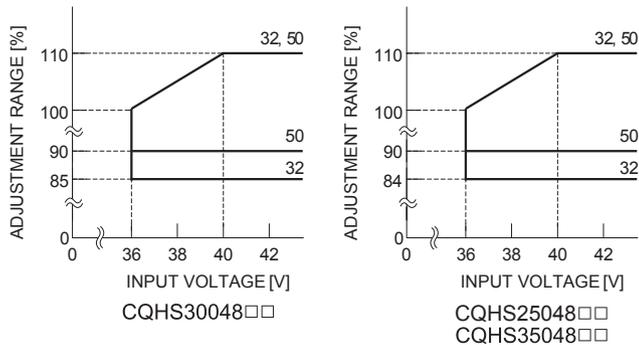

Fig. 3.7 Output voltage adjustment range
■When the input voltage is 36 - 40VDC, the output voltage adjustment range becomes as shown in Fig. 3.7.